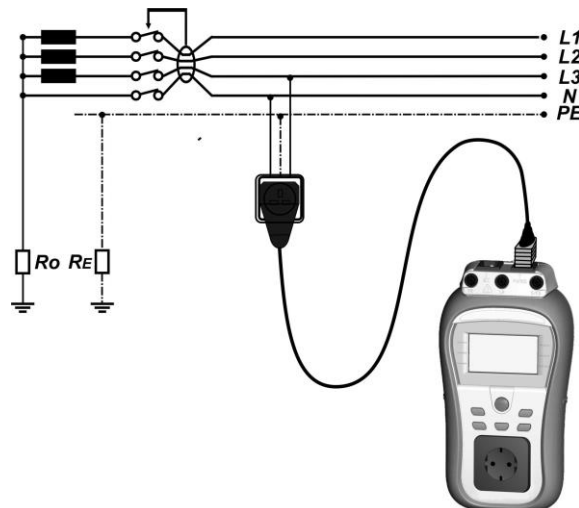

Figure 5.47: Enhanced TRMS test with the IEC cord
- Connect the IEC cord to the instrument's MAINS terminal and to the external mains socket as shown on **Figure 5.47**.